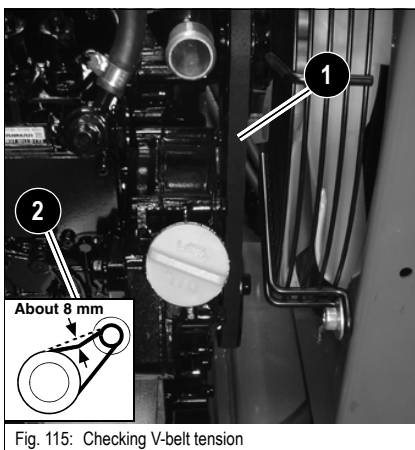

Fig. 115: Checking V-belt tension
- ☞ Press with your thumb about 100 N (22.5 lbs) to check the deflection of the V-belt between the crankshaft disc and the fan wheel. A new V-belt should have a deflection of 6 to 8 mm (0.24" to 0.31"), a used V-belt (after about 5 minutes running time) should have a deflection of 7 to 9 mm (0.28" to 0.35") (fig. 115/2).